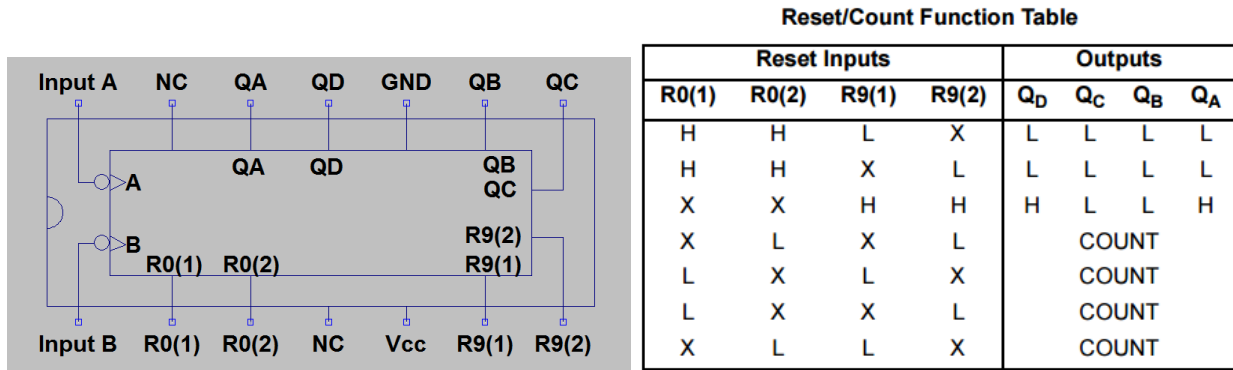

Figure 1 7490 Datasheet information, pinout and function table.
A common requirement in digital circuits applications is to count and display the number of pulses contained in a continuous TTL compatible pulse train (e.g., the output of a proximity sensor detecting parts on a moving conveyor belt or a photosensor detecting a reflection from a piece of tape on a rotating shaft). We want to count the number of pulses and output this number in binary coded form. This can be done using a 7490 decade counter. Refer to the 7490 pin-out and function information in Figure 1.
The 7490 decade counter has four reset inputs: R0(1), R0(2), R9(1), and R9(2) that control count and reset functions. The Reset/Count Truth Table summarizing the functions of these four pins is included in Figure 1. There are many ways to utilize these reset inputs. A simple method is to set R0(2) = H, R9(1) = L, and R9(2) = L, where H=5V and L=0V. When R0(1) is set to L, the counter will be in count mode (see row 5 or 6 of the Reset/Count Truth Table in Figure 1). When R0(1) is set to H, the counter will reset to 0 (LLLL) (see row 2 of the Reset/Count Truth Table).